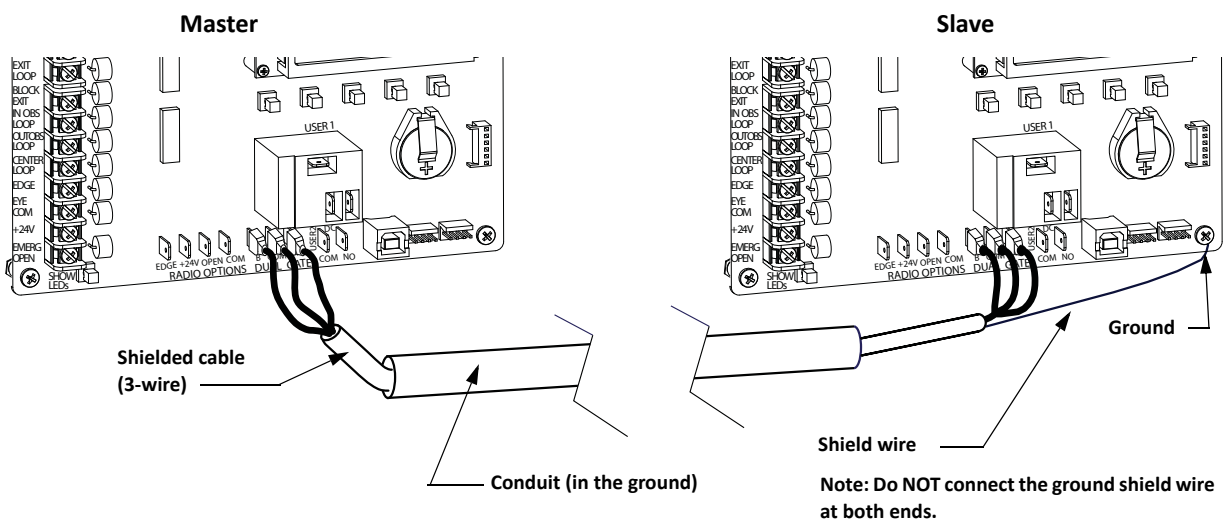

Figure 5-2.
- An electrical conduit for interconnecting wires must span between the two operators. The master-slave communication wires and any low voltage control wires must be installed in a conduit that is separate from the high voltage power wires. See Figure 5-2.
1. As shown in Figure 5-2, connect a shielded communications cable to the DUAL GATE inputs in each unit. The inputs are located near the base of the Smart DC Controller. Be sure to connect the wires in pairs to the same terminal ports (A-A, B-B, and COM to COM) on both units. See *Master Slave Connections on SDC Boards* Table 5-2.
2. Attach a ring terminal to the shield wire and connect it to the Smart DC Controller's convenient ground screw. Refer to Figure 5-2.